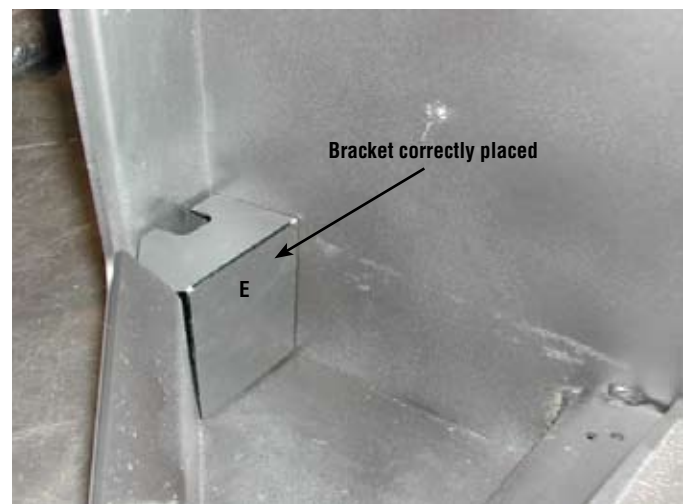

Figure 32
2. One bracket goes into the left corner and the other into the right corner of the firebox. Rotate the brackets so they are placed as shown in *Figure 32*. The bracket fits between the back of the firebox and the air wash at the front of the insert.